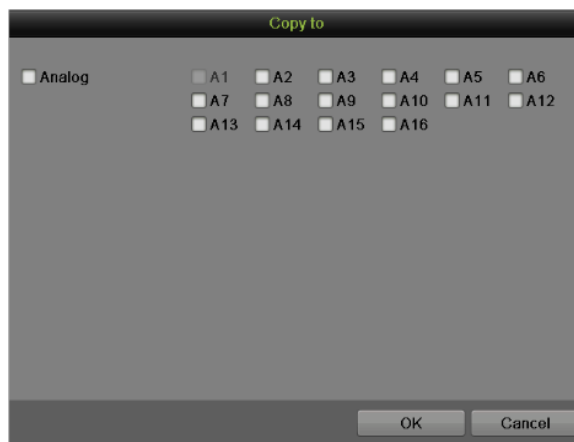

Figure 70 Copy to
6. Repeat the above steps to set record schedule for other channels. If the same schedule can be applied to other channels, click the Copy button to pop-up a Copy to box, as shown in Figure 70.